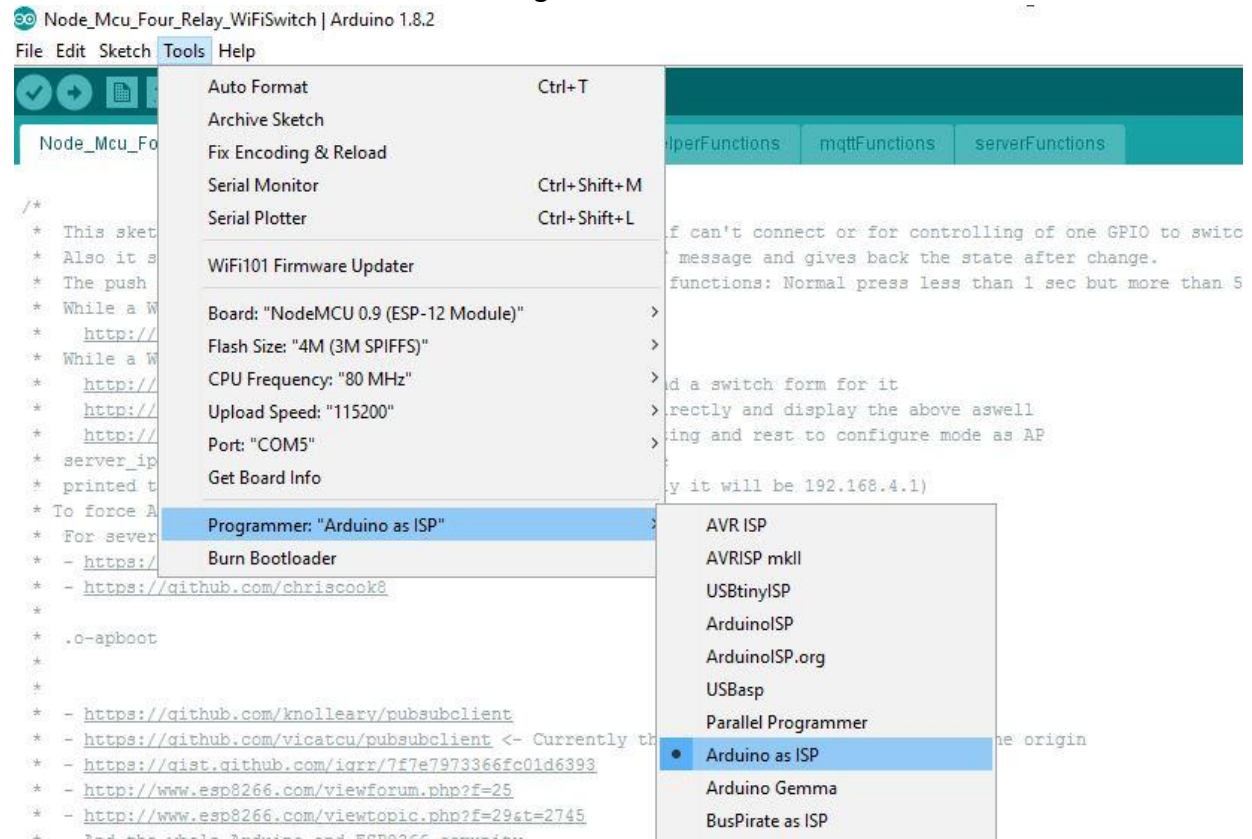

Figure 14: IDE Selection
11. Click on tools tab, move mouse pointer to “Port: “COMx””, under this click on “COMx” to select. (“x” refers to port number available in your computer) Refer to figure 14.